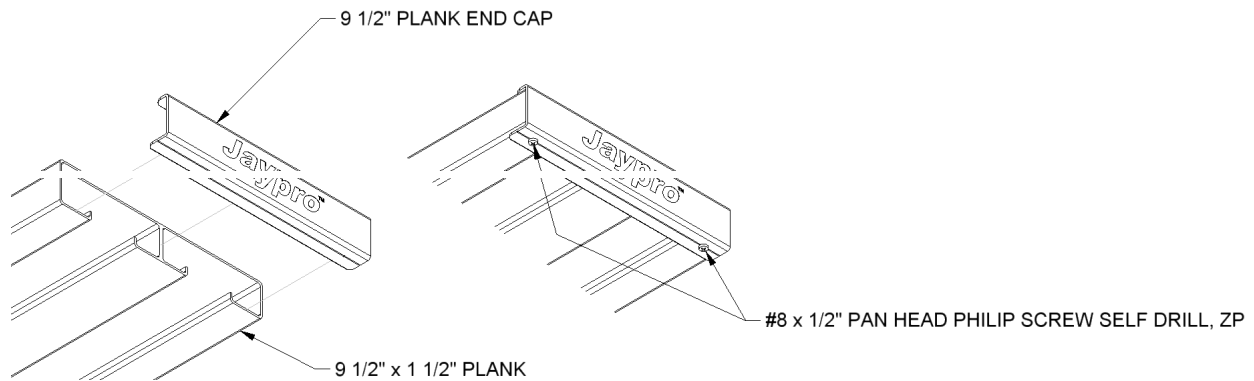

Figure 4
4. Install end caps on both ends of each plank as shown in figure 4 – lightly tap on with a rubber mallet if necessary. Secure end caps in place using the #8 pan head self-drilling screws.